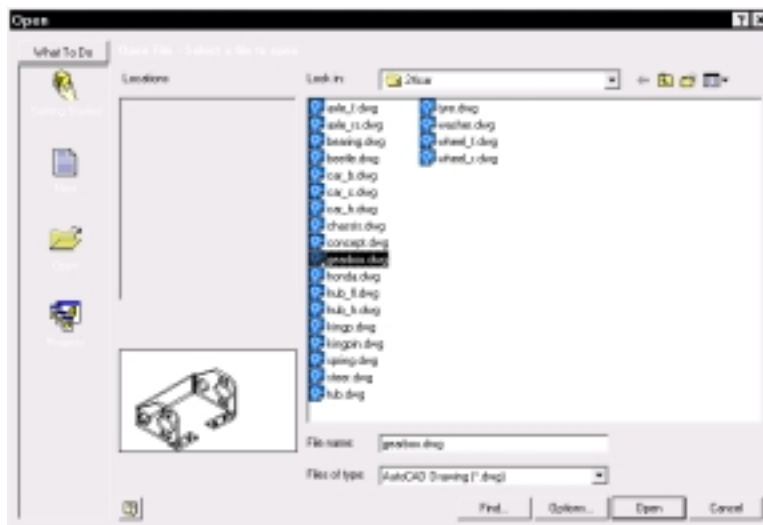

Figure 1-6
2. In the Open dialog box, select a Mechanical Desktop file and select the Options button. (See Figure 1-6.)